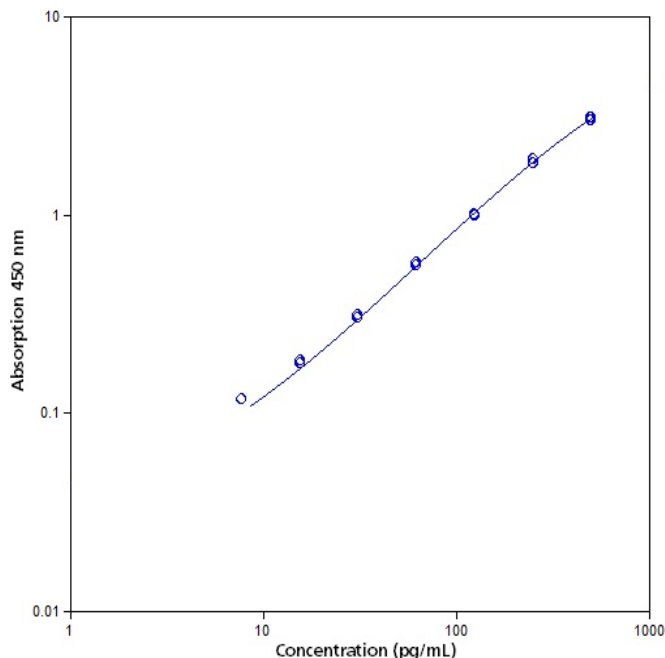

Fig. 8 Representative standard curve for human Granzyme A ELISA. Human Granzyme A was diluted in serial 2-fold steps in Sample Diluent.
- A representative standard curve is shown in Figure 8.